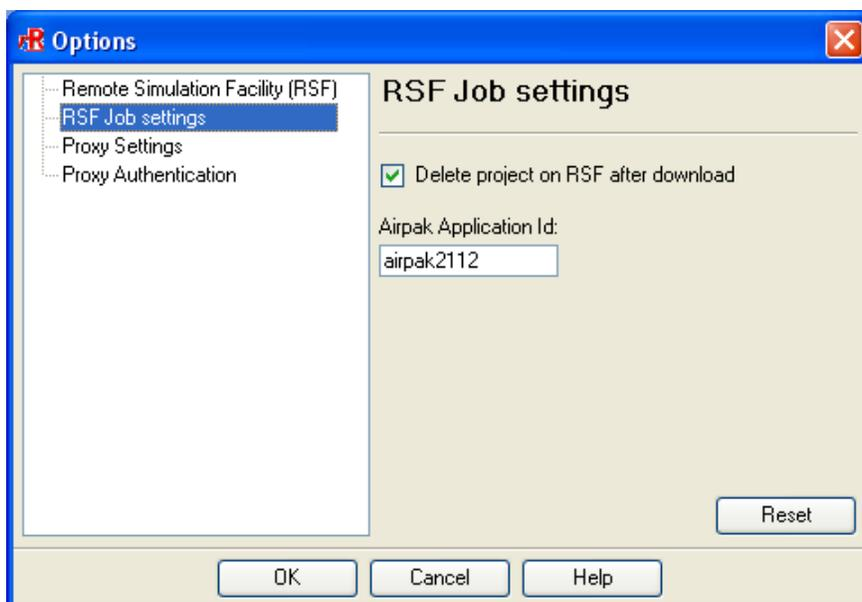

Figure 27.11.27: The RSF Job settings Panel
- i** Note that if you don't specify that the RSF project be automatically deleted after download, then you can subsequently log on to the RSF site (<https://rsolve.fluent.com/fluent/jsp/index.jsp>) using your UserID and password, and manually delete the project. If you want **Airpak** to always delete files after download, you can save this preference in the **RSF Job Settings** panel. See Figure 27.11.27 for details.
- ii. Select the **RSF Job settings** node from the tree (Figure 27.11.27) to set the RSF job settings. Select **Delete project on RSF after download** to delete the project and all its associated files on the RSF after the solution is completed and the results are successfully downloaded.